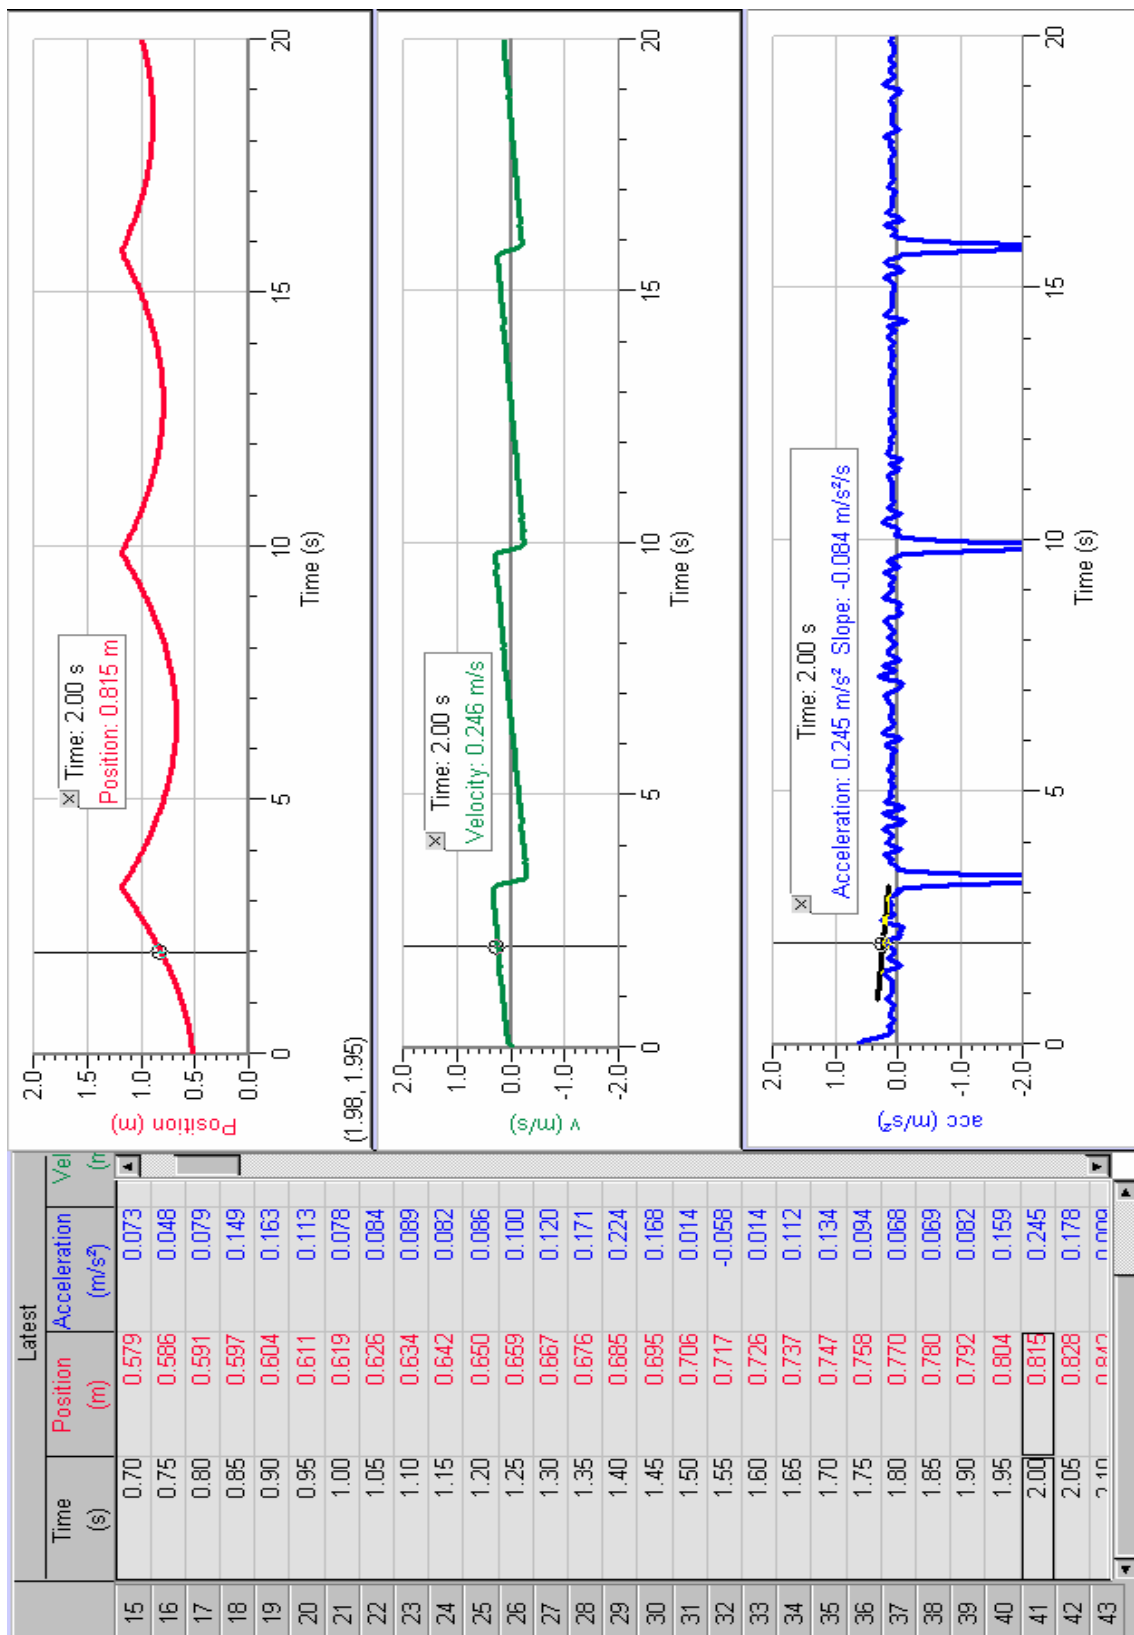

Figure 1 – Vernier Logger Pro data table and motion graphs
4) When you open Logger Pro, only two graphs (position and velocity) will be shown. Pull down the **Insert** menu and select **Graph**. A third graph (acceleration) will pop out. Resize all three graphs so that your display resembles that of Figure 1. Click on the title of the y axis in each graph and change it to *position*, *velocity*, and *acceleration*. Change the title of all x axes to *time*. Click the **A** button to automatically rescale the axes.
1) Hold the glider 40 cm from the detector and release it one second after clicking the **Collect**  button. If your graphs are jittery, adjust the detector and/or the air track until your position graph shows at least 3 peaks and 3 valleys as in Figure 1. Answer the questions in Part I of your data sheet.